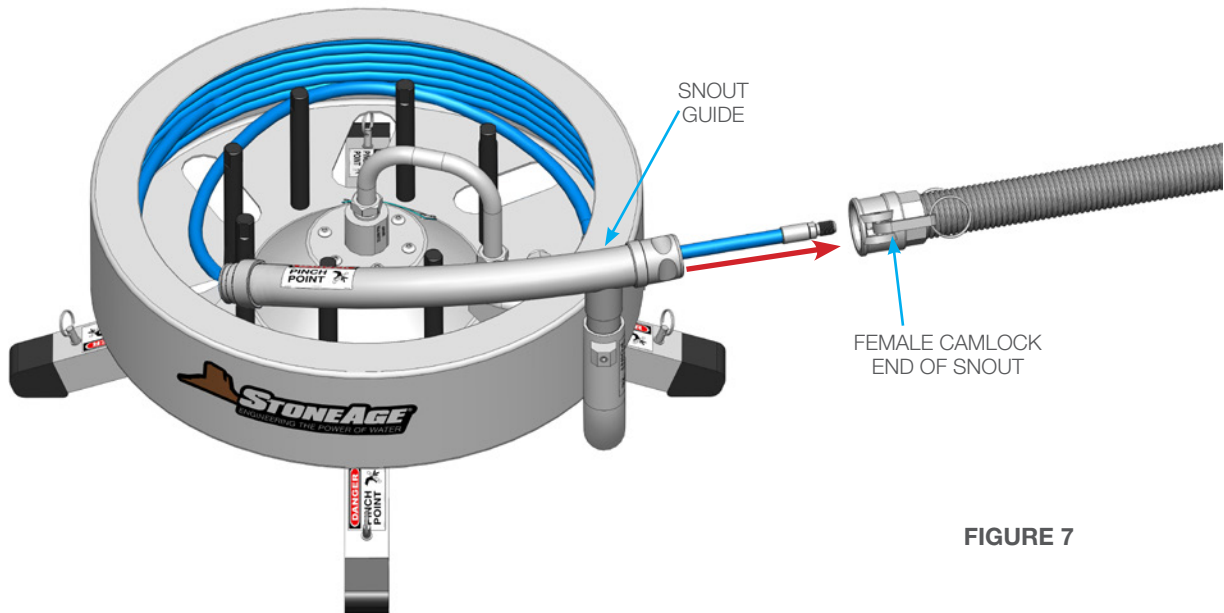

FIGURE 7
1. Push the hose through the Snout, then connect the Female Camlock end of the Snout to the Snout Guide. (Figures 7 & 8)